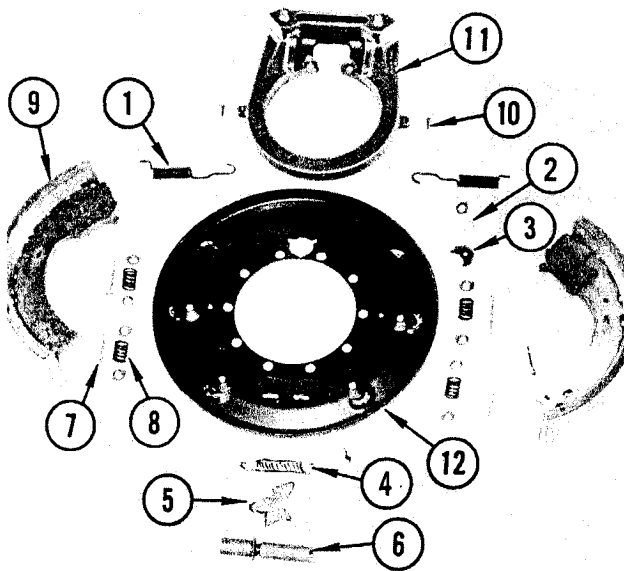

FIGURE 3. BACKING PLATE ASSEMBLY
Refer to Figure 3 and disassemble brake assembly by following the numerical sequence. Remove the two shoe return springs (1). Remove automatic adjusting cable (2). Remove cable guide (3) from brake shoe. Remove automatic adjusting lever spring (4). Remove automatic adjusting lever (5). Expand lower ends of brake shoes and remove
For reassembly of the brake assembly, reverse the numerical sequence for disassembly as shown in Figure 3 and the following information.